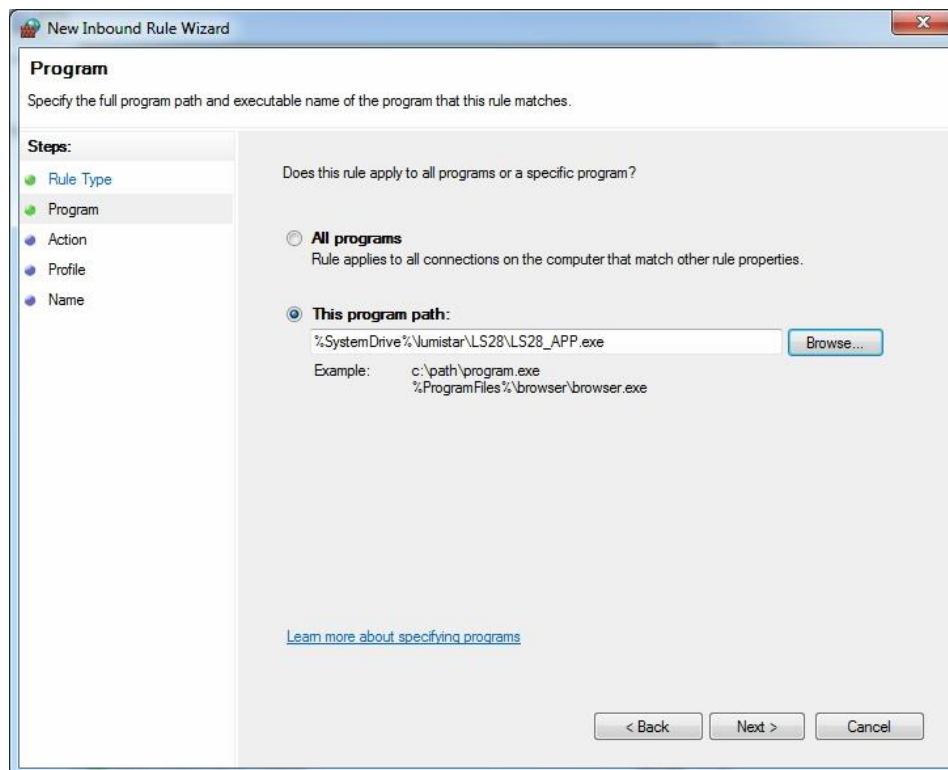

Figure 2-12 Windows Firewall – Advanced Security New Rule: Program
Step 7: The “New Rule” process will continue with the PROGRAM menu, browse to the route of the LS-28-DRSM installation and select the EXE file that is found there. The application will typically be located as shown in the following Figure 2-12.